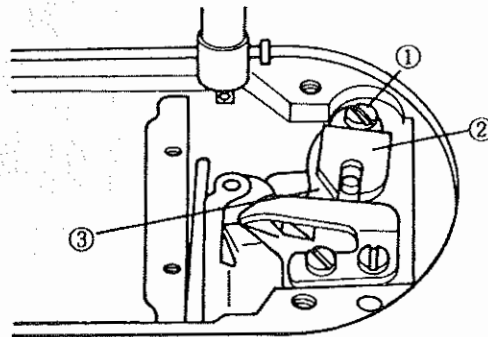
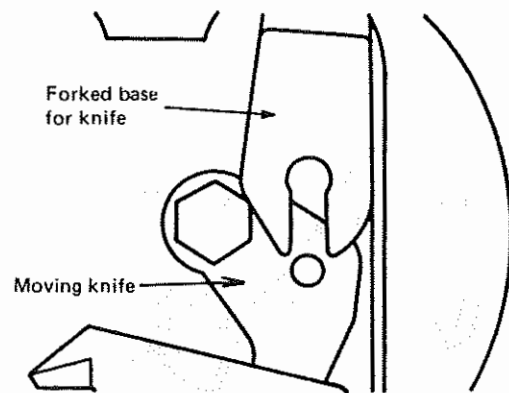

Fig. 46
Fig. 47
- 2) Remove hinge screw ① (Fig. 46), remove forked base for knife ② (Fig. 46) and the moving knife ③ (Fig. 46) to the position as shown in Fig. 47, and remove the moving knife pin from the forked base for knife.